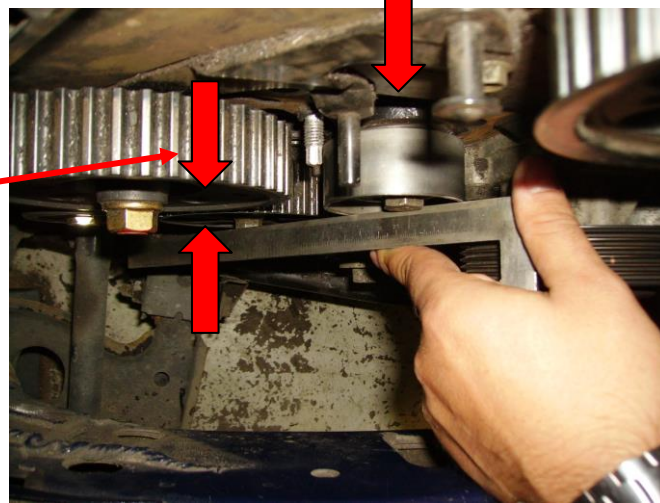

Fig. 6
- 4) Install the new coil spring tensioner (spring over stud, bolt hand tight); make sure tensioner is sitting perfectly against engine block. If not, the spring could end up between the tensioner and the engine block, creating a serious tensioner misalignment (see Fig. 6).
- 3) Install the new coil spring tensioner (spring over stud, bolt hand tight); make sure the tensioner is sitting perfectly against the engine block. If not, the spring could end up between the tensioner and the engine block, creating a serious tensioner misalignment (see Fig. 6).